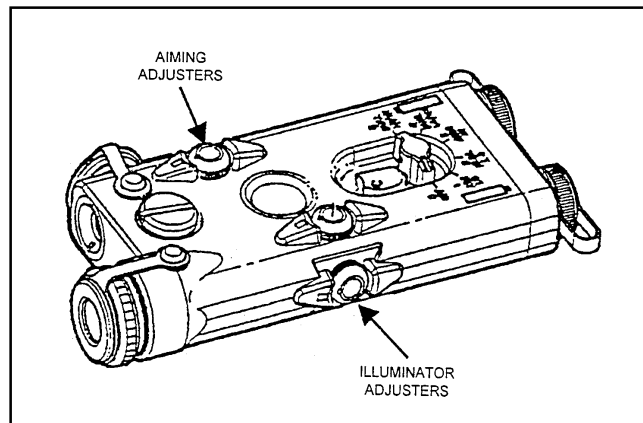

Figure G-17. Boresight adjusters for both aiming and illumination beams.
h. **Adjusters** (Figure G-17). The AN/PEQ-2A is equipped with boresight adjusters for zeroing the aiming beam and illumination beam. The AN/PEQ-2A adjusters move the beams in true horizontal and vertical directions. When zeroing the AN/PEQ-2A, it is best to zero the aiming beam to the weapon and then align the illumination beam to the aiming beam.